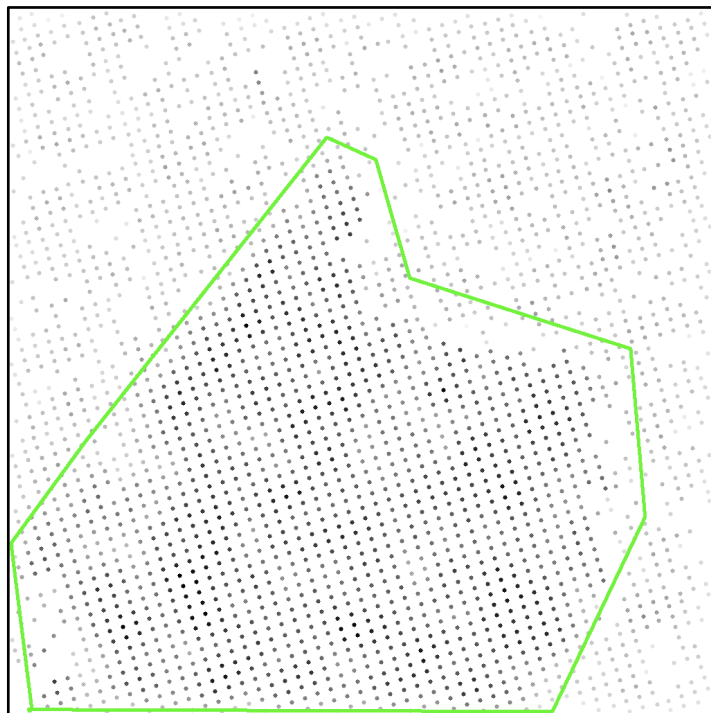

Figure 38: Masked XCF Map
3. Now you can mask your crystal by defining the borders with a bunch of left mouse clicks. A double-click will automatically close the selected polygon. Note that you can delete the current selection by selecting "Polygon Selection > Clear Selection" from the menu appearing when right-clicking on the image. Your masked image should be somehow similar to Figure 38.